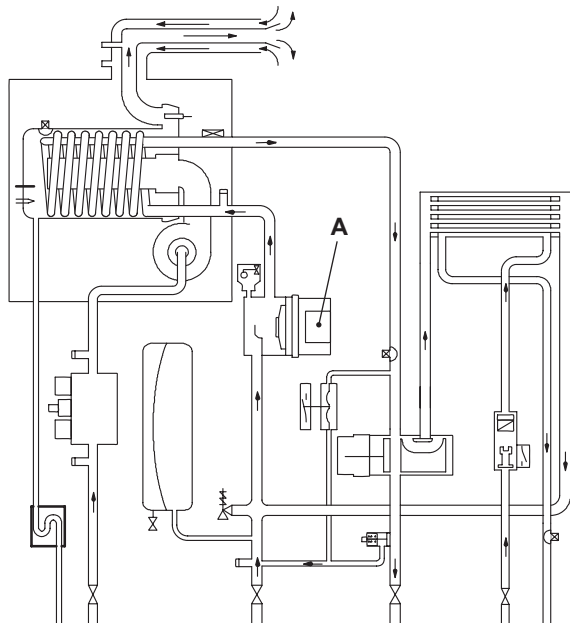
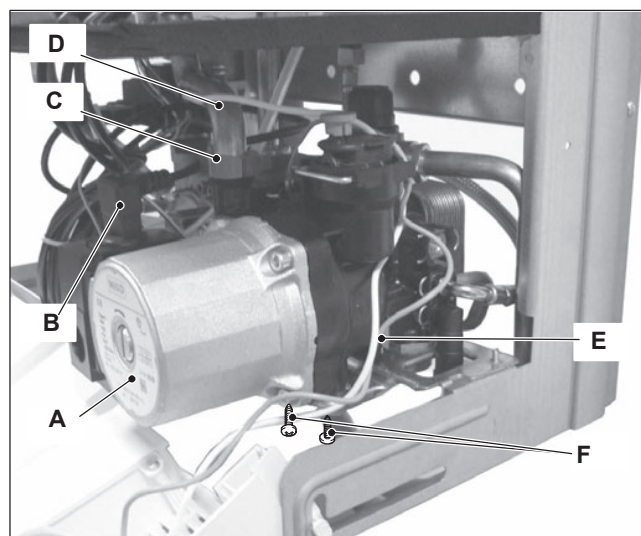

Figure 7.1
Figure 7.2
The pump A in Figure 7.1 and Figure 7.2 has the function of making the water in the main circuit circulate through the main condensing heat exchanger and therefore through the c.h. system (during the c.h. function) or through the secondary heat exchanger (during the d.h.w. function).
With the boiler off, remove the front panel and disconnect the connector B (Figure 7.2).
- 4 Disconnect the connector B (Figure 7.2).